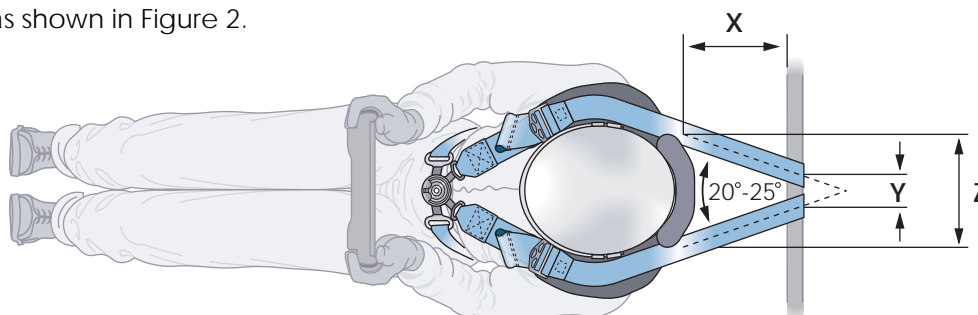

Figure 2. Position of shoulder belt anchorage points to achieve desired belt angle (plan view)
**2.3** The shoulder strap anchorage points on the car shall be symmetrical about the centre line of the driver's seat. When viewed from above, the angle between the belts shall be approximately 20°-25° as shown in Figure 2.
- dimension Z (mm) = width of the HANS® collar, as shown in Figures 2 and 3
- dimension X (mm) = distance from the rear edge of the HANS®-belt-bearing-surface to the car attachment point (mm) as shown in Figure 2
- dimension Y (mm) = separation of the centres of the two shoulder straps at the car attachment points (mm) as shown in Figure 2